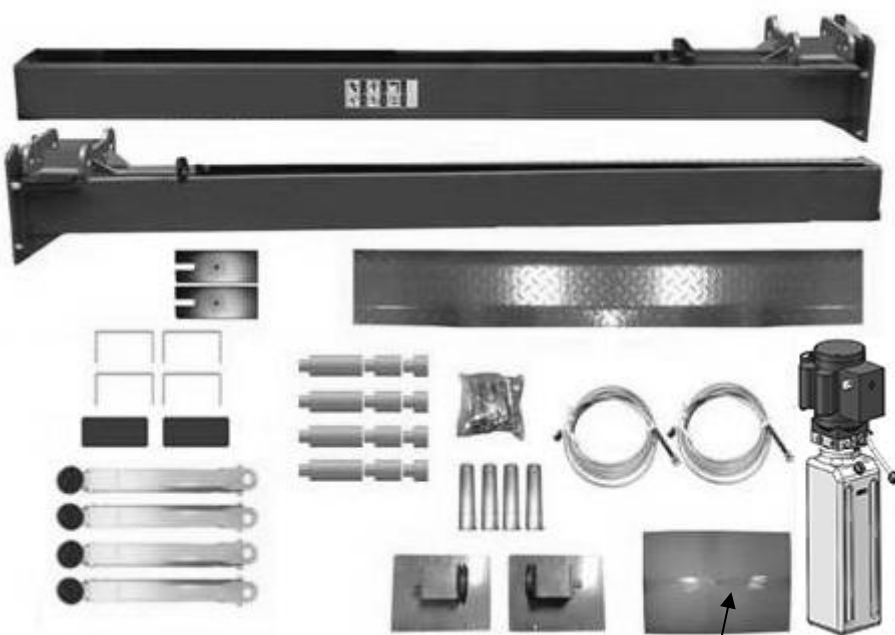

Fig. 9
4. Move aside the parts and check the parts according to the shipment parts list. (See Fig. 9, Fig. 10).